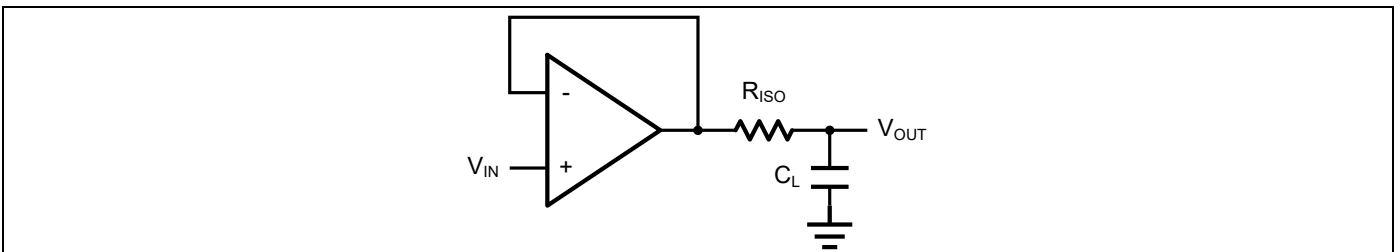
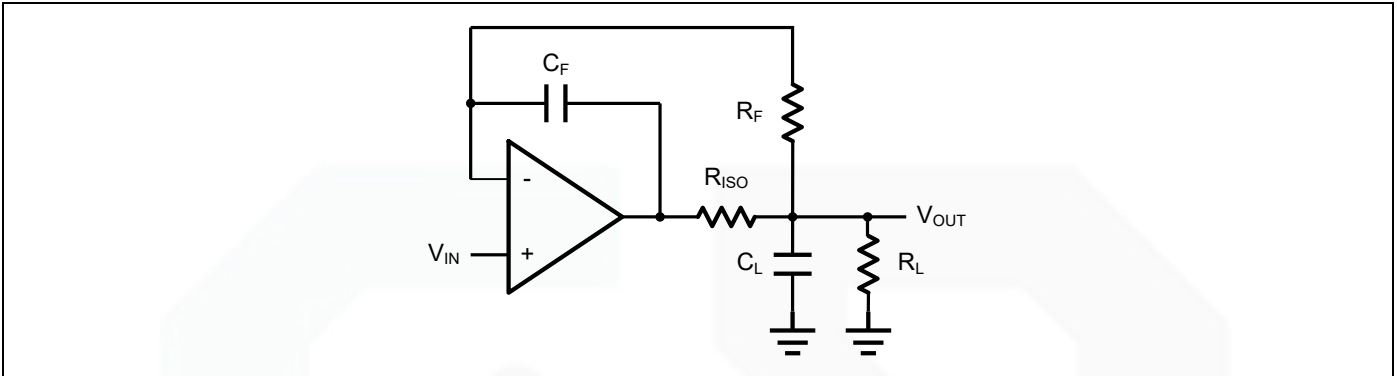

Figure 2. Indirectly Driving a Capacitive Load Using Isolation Resistor
Figure 3. Indirectly Driving a Capacitive Load with DC Accuracy
The GS321B/358B/324B family is optimized for bandwidth and speed, not for driving capacitive loads. Output capacitance will create a pole in the amplifier's feedback path, leading to excessive peaking and potential oscillation. If dealing with load capacitance is a requirement of the application, the two strategies to consider are (1) using a small resistor in series with the amplifier's output and the load capacitance and (2) reducing the bandwidth of the amplifier's feedback loop by increasing the overall noise gain. Figure 2. shows a unity gain follower using the series resistor strategy. The resistor isolates the output from the capacitance and, more importantly, creates a zero in the feedback path that compensates for the pole created by the output capacitance.
The circuit in Figure 3 is an improvement to the one in Figure 2.  $R_F$  provides the DC accuracy by feed-forward the  $V_{IN}$  to  $R_L$ .  $C_F$  and  $R_{ISO}$  serve to counteract the loss of phase margin by feeding the high frequency component of the output signal back to the amplifier's inverting input, thereby preserving the phase margin in the overall feedback loop. Capacitive drive can be increased by increasing the value of  $C_F$ . This in turn will slow down the pulse response.